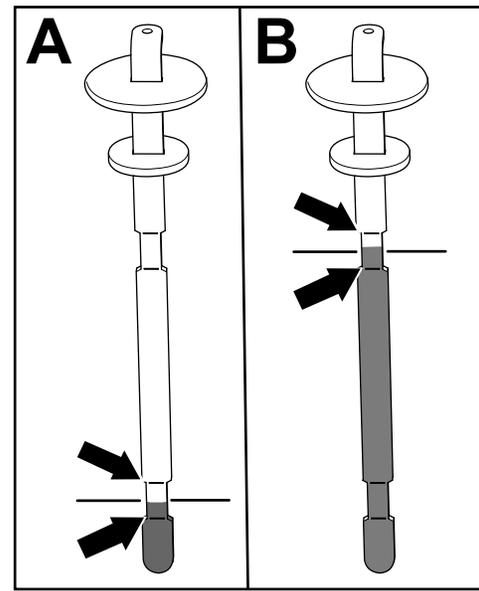

Figure 80
5. Remove the dipstick and check the fluid level (Figure 80).
- **If you have a cutting unit equipped:** The hydraulic-fluid level is at the appropriate level when the fluid appears between the lower 2 marks on the dipstick (A in Figure 80). It is also acceptable for the fluid level to be above the lower marks.
- **If you have the Hydraulic Driven Attachment Hose Kit equipped:** The hydraulic-fluid level is at the appropriate level when the fluid appears between the upper 2 marks on the dipstick (B in Figure 80).